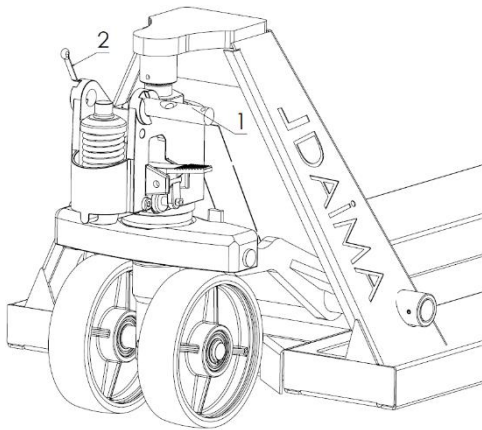
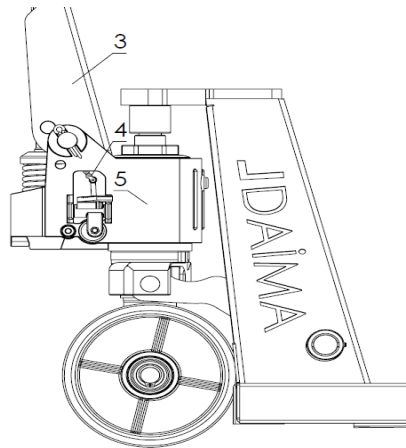

Figure 1
Figure 2
- Pull the lift arm connecting pin, numbered 1 in Figure 1 and remove it from it's socket. (Figure 2)
- Assemble the lifting arm (See Figure 2, item 3) and the hydraulic pump (See Figure 2, item 5) with the lifting arm connecting rod.
- Then fix the lift arm by inserting the cotter pin (see Figure 1, item number 2) through the holes on the lift arm connecting shaft on the right and left.
- Pass the chain on the lift arm (See Figure 2, part number 4) through the hole in the middle of the lift arm connecting shaft.